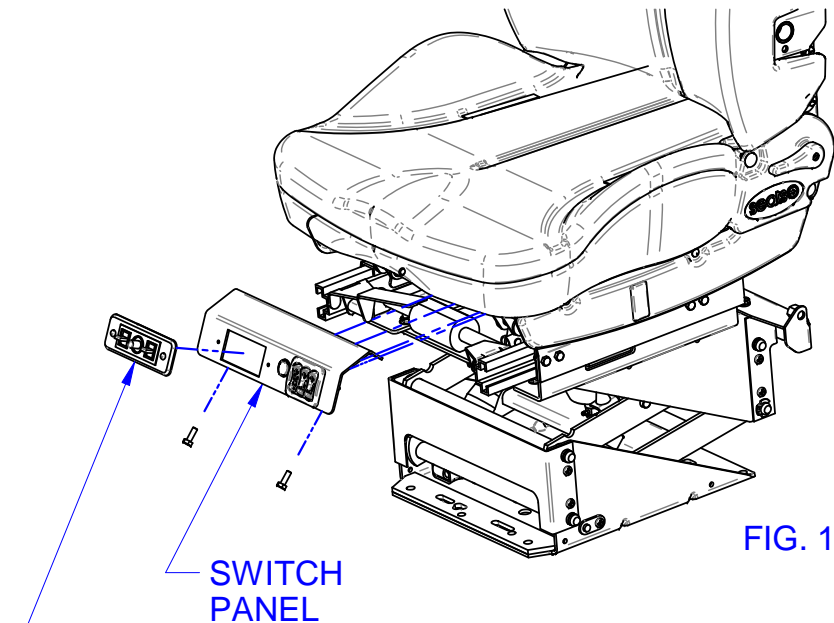
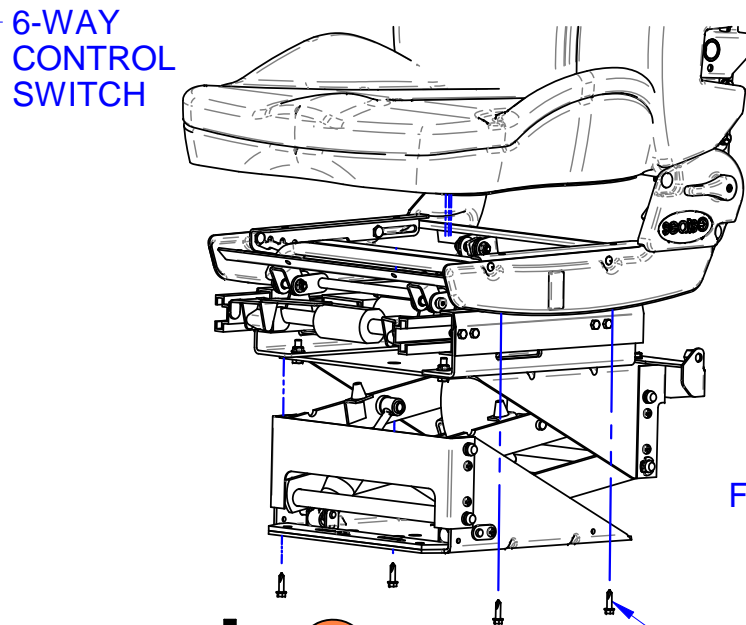

FIG. 1
FIG. 2
2. REMOVE (2) SCREWS FROM 6-WAY CONTROL SWITCH TO DETACH FROM SWITCH PANEL CLUSTER. RETAIN SCREWS FOR REATTACHMENT OF NEW 6-WAY CONTROL SWITCH. (FIG. 1)
3. REMOVE (2) SCREWS FROM BACKSIDE OF FRONT SWITCH PANEL TO DETACH FROM UNDERNEATH CUSHION FRAME AND RETAIN. (FIG. 1)
4. LOCATE THE CUSHION HEATER CONNECTIONS FROM BACK ASSEMBLY AND DISCONNECT THE TWO (2) CUSHION HEATER CONNECTORS SO CUSHION ASSEMBLY CAN BE SEPARATED FROM SEAT. (PHOTO 1)
5. REMOVE (4) 1/4"-14 SCREWS FROM CUSHION ASSEMBLY AND RETAIN. (FIG. 2)